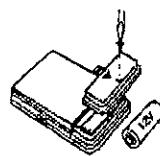

Fig.3
10. Insert the A23 battery (included) into the battery compartment. Make sure battery is in correct polarity as shown on the battery compartment before replace the battery door. Replace the screw (Fig 3).